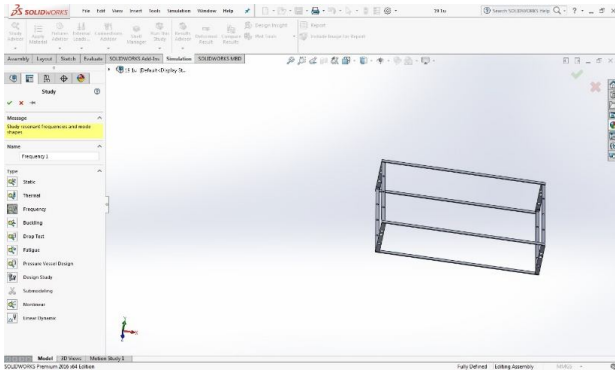

Fig.2a- Selecting Frequency Simulation
- Select frequency in the simulation as shown in Fig 2a.